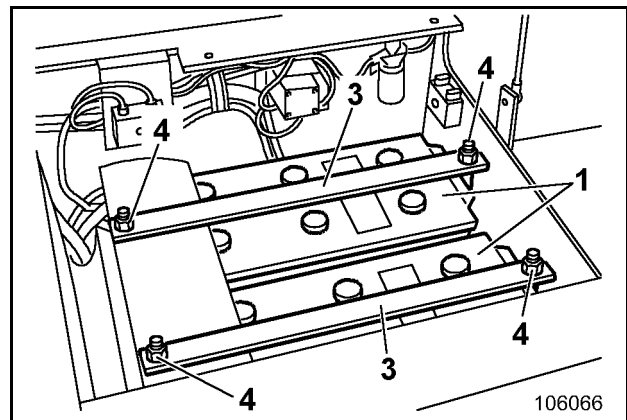

Fig. 3-50:
- Unscrew battery holder (3, Fig. 3-50:).